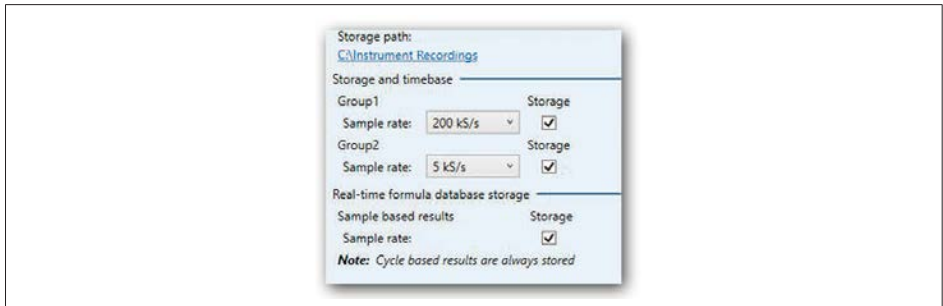

Fig. 9.22 Storage and timebase
- C Data for **Group1** is recorded at 200 kS/s and stored, for Group 2 at 5 kS/s and also stored (see Fig. 9.22).